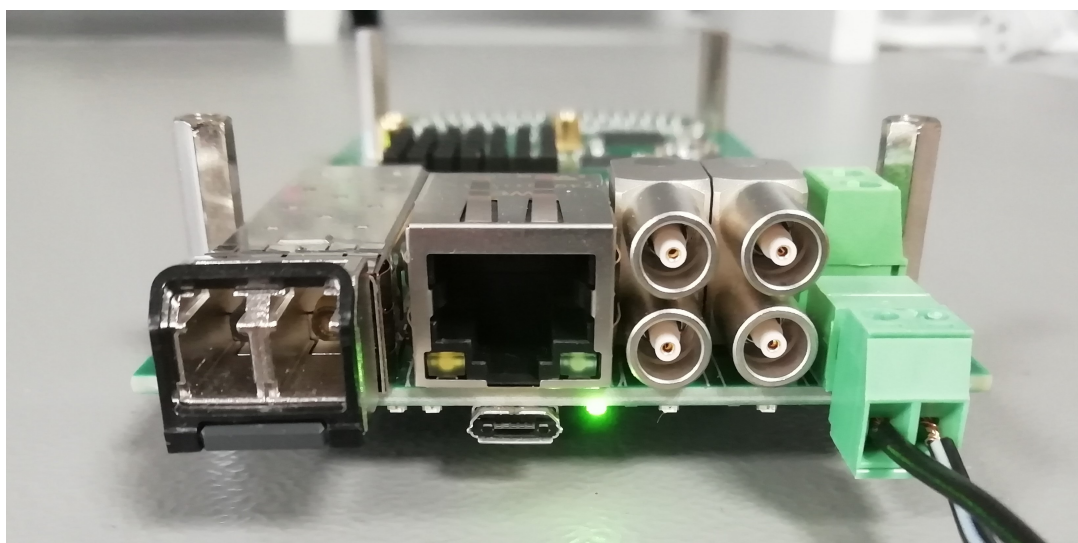

Fig. 10.1: A5202 status at power ON.
- The A5202 board immediately turns on, after few seconds the PWR green LED (see Sec. 7.3) turns on and stays on as long as the board is connected to the power supply (see Fig. 10.1). To power on the DT5202, the user has to press the button on the module front panel (see Sec. 7.3).